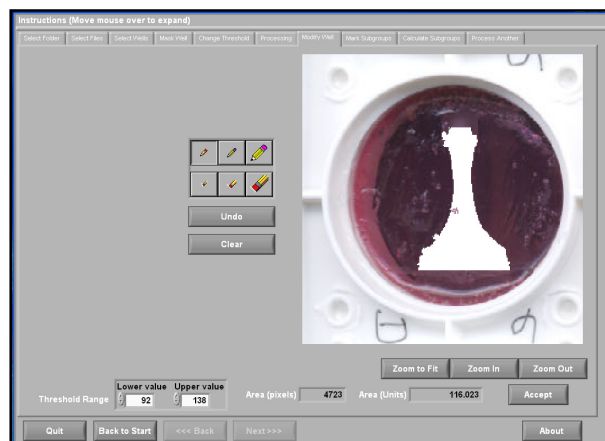

Figure 28. The processed well image prior to manual editing.
1. A combination of adjusting the threshold range for a selected well image and utilizing the editing tools allows the freedom of pixilation creation or deletion (Fig. 28). The threshold range for the selected well image may be adjusted using the *LOWER VALUE* and *UPPER VALUE*. The user may also *Zoom In* to sections of the image to ensure a higher quality pixel selection in a particular section of the chosen image. The *AREA (PIXELS)* and *AREA (UNITS)* are shown below the image window. The *AREA (UNITS)* are the units chosen by the user during the *CHANGE THRESHOLD* screen, either *pixels*, μm^2 , mm^2 , or cm^2 .